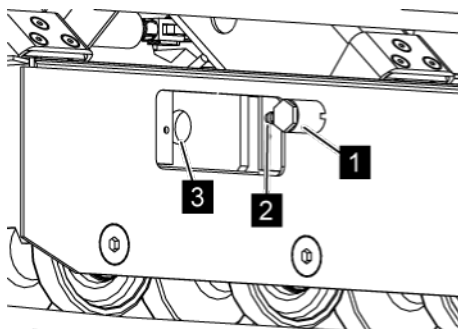

Fig. 149: Put back the slide coupling
4. ➤ *Push the slide coupling (Fig. 149/1) with the grease nipple (Fig. 149/2) in front onto the grease tension cylinder (Fig. 149/3).*